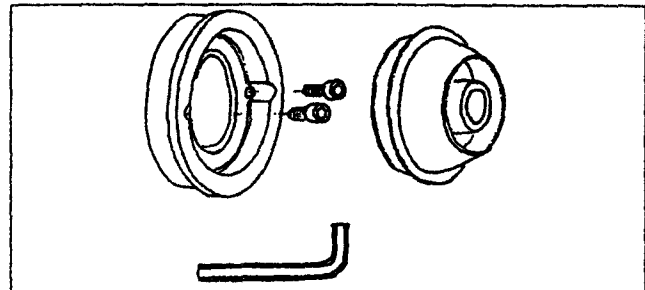

Fig.10
**#4017547 Kit for light truck wheels** (Fig.10).